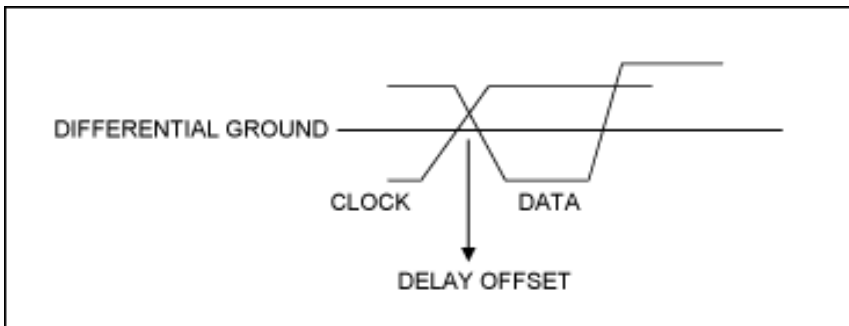

Figure 4. Misalignment/offset between the clock and data.
1. **Figure 4** demonstrates that the clock and data are not initially aligned. Ideally, the clock and data should cross at the differential ground. If this is not the case, add delay to the data until it is aligned with the clock. Use the "delay" option on Channel 2 of the Agilent 8133A pulse generator. Call it "delay offset".